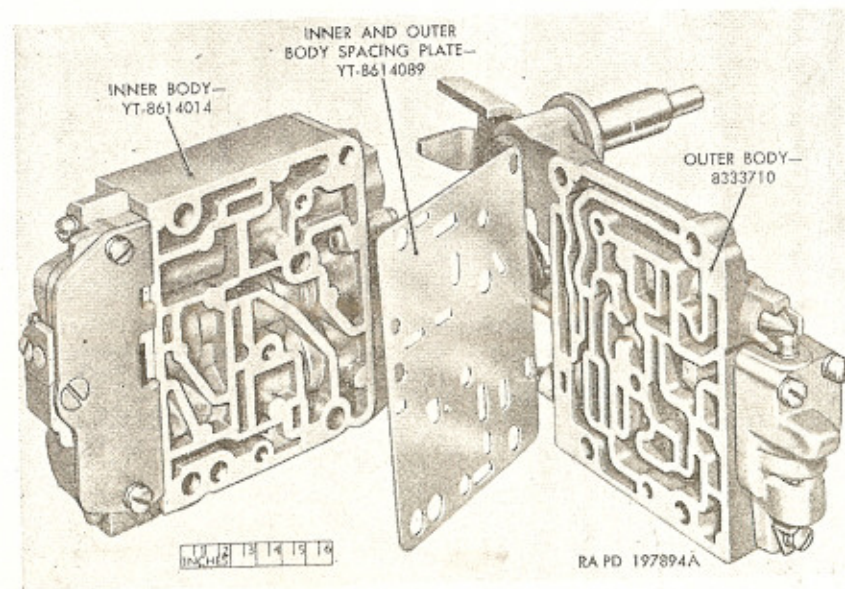

Figure 54. Control valve inner and outer bodies separated.
c. Remove three screws (N and LL) holding control valve inner and outer bodies (RR and M) together; then separate bodies and remove inner and outer body spacing plate (JJ) (fig. 54).